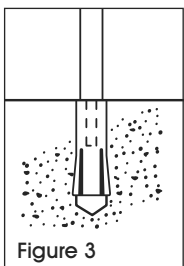

Figure 3
3. Expand anchor with setting tool (not included). Anchor is properly expanded when shoulder of setting tool is flush with top of anchor. (See Figure 3)